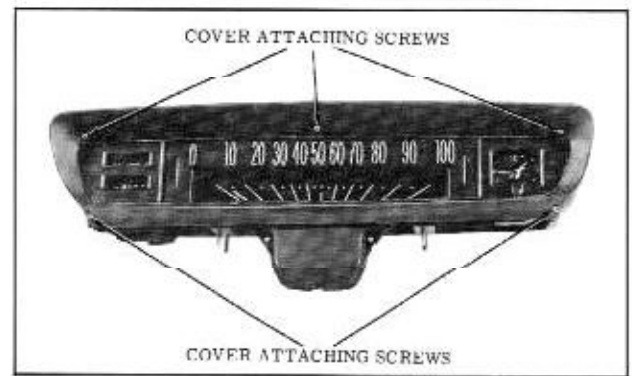

Fig. 13-99 Instrument Cluster Cover
1. Remove the 4 instrument cluster cover attaching screws. (Fig. 13-99)